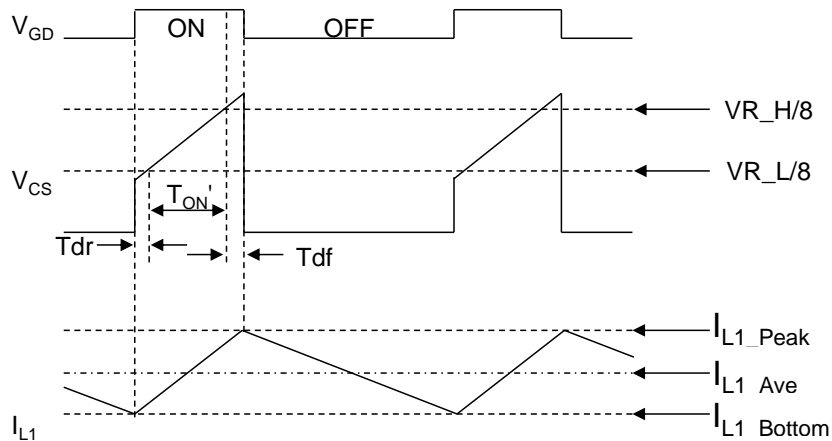

Figure 22. Time Waveform with Group Delay
As mentioned in “2) Switching Frequency”, the inductance value of the coil is determined by input/output voltage conditions and switching frequency [Fsw]. However, the setting calculations for the RVLY pin and the CS pin do not include group delay of the circuit. For example, ΔI_{LI} does not include group delay but T_{ON} includes group delay in equation (10). Therefore, a T_{ON} value without group delay must be calculated to determine the coil inductance by equation (10). Figure 22 shows a detailed time waveform of the GD pin voltage, the CS pin voltage and the coil current, which is shown in Figure 2, with group delay.
In Figure 22, T_{dr} indicates group delay from a rising of the GD pin voltage to a falling of the A2 comparator. T_{df} indicates group delay from a peak current detection of the CS pin to a falling of the GD pin voltage. Although these values vary depending on the characteristics of M_1 and IC performance, group delays are approximately determined by following expressions.